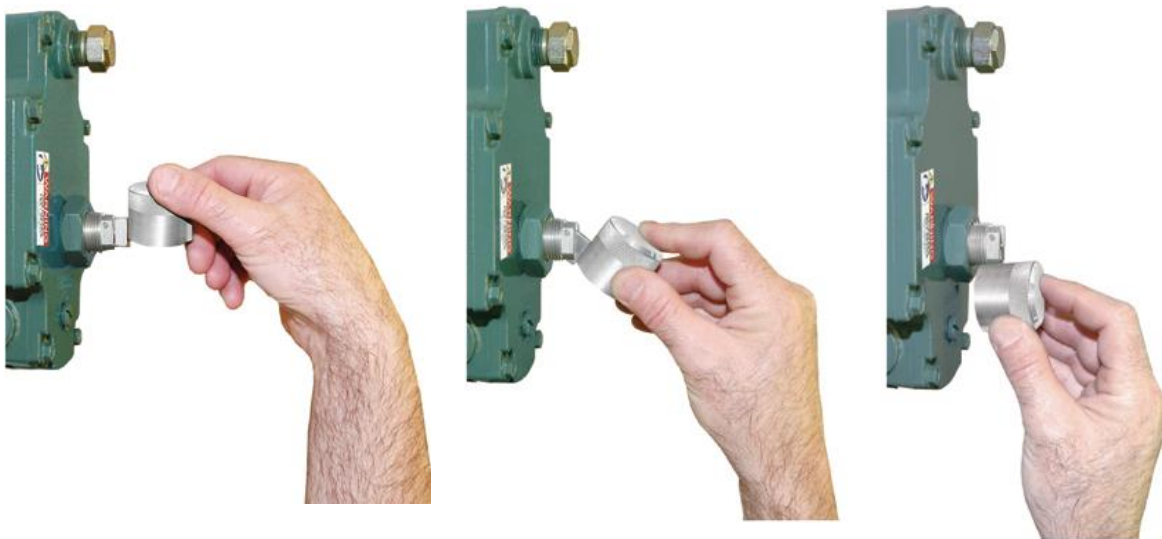

Figure 3-2. Operating the Overspeed Test Device
6. Using the cap and adjusting pin, rotate the cam to full stroke position again and hold it in place (Figure 3-2).
7. While holding the cam in full-stroke position and monitoring the speed, use a 3/32" Allen wrench to adjust the push rod clockwise (CW), just until the trip speed is reached.